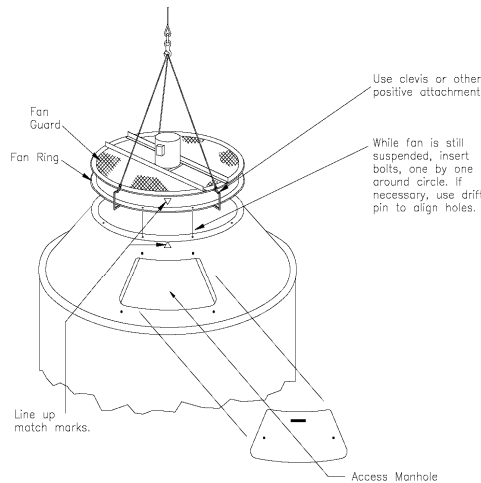

FIGURE 3 - FAN INSTALLATION
- Lift the fan assembly using the lifting lugs located on the fan ring. (Refer to Figure 3).